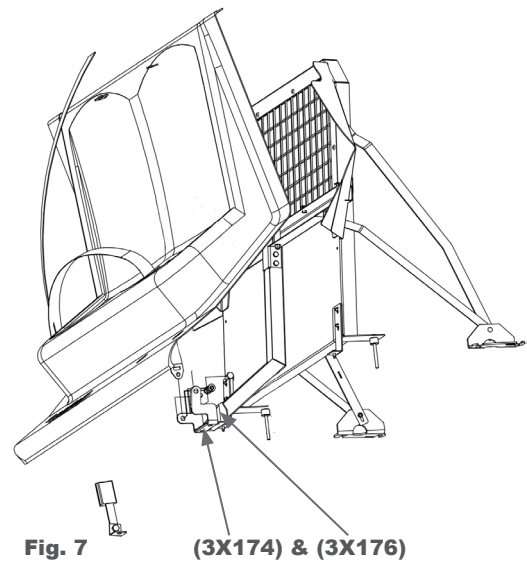

Fig. 7
- A. First, flip the (3S47UINT13) transport seat upside down and use the provided template on the back pages to cutout the passenger-side seat belt area for installation. Then install the (3OSB109RP) lower seat belt buckle on the passenger side. Use the (3OSB4715-06) buckle L-bracket and (3X174 & 3X176) bolt & nut to fasten these to the original OEM belt buckle location at the lower part of the C-pillar. (See Fig. 7 or 8) Tuck the OEM belts behind the trim to hide.